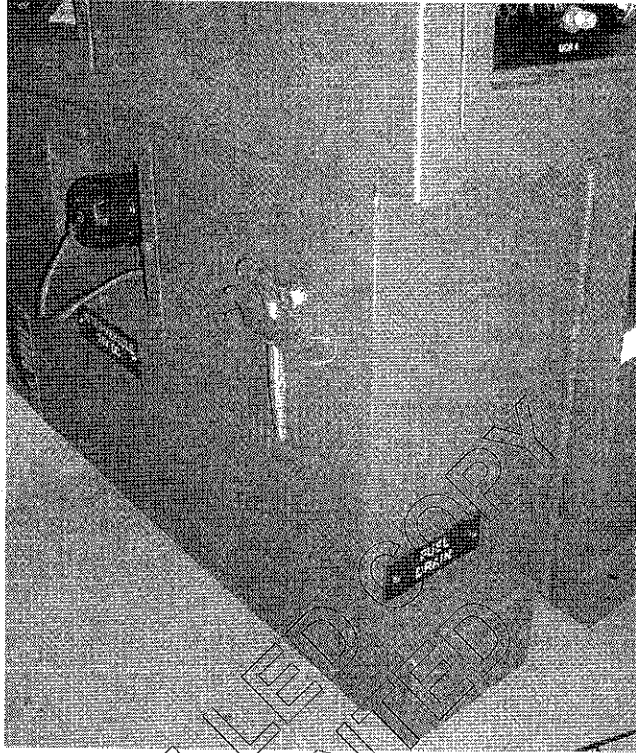

Fig 5 Fuel drain
- 25 Any Dieso in the fuel tank should be completely drained using the drain plug on the side of the canopy base (Fig 5).